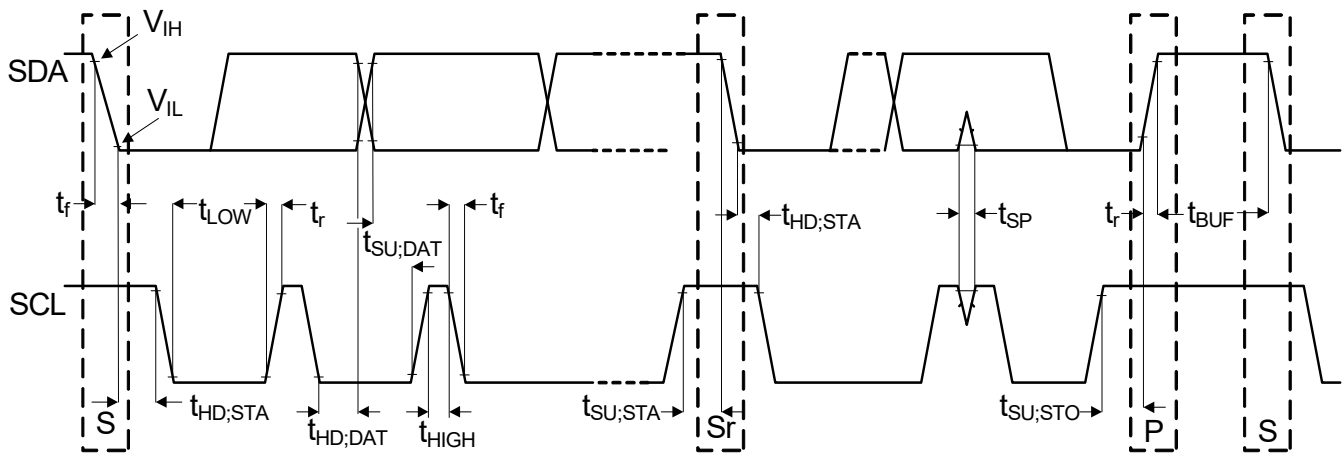

Figure 1. I²C Timing Definitions
4. Refer to Figure 1 for I²C timing definitions.